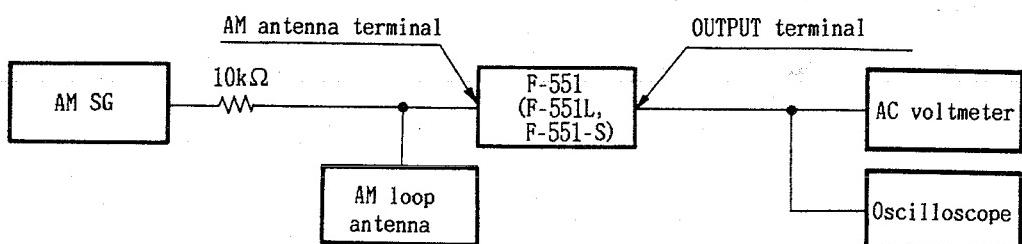

Fig. 2-2. AM adjustments connection diagram
- Connect up as indicated in Fig.2-2.
- Press the AM (MW) key to set AM (MW) mode.
- Press the AM (LW) key to set AM (LW) mode.